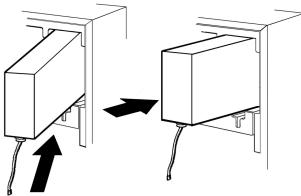

figure 2
- 2 - Insert the box into the dispenser taking care to push it to the end (see figure 2).